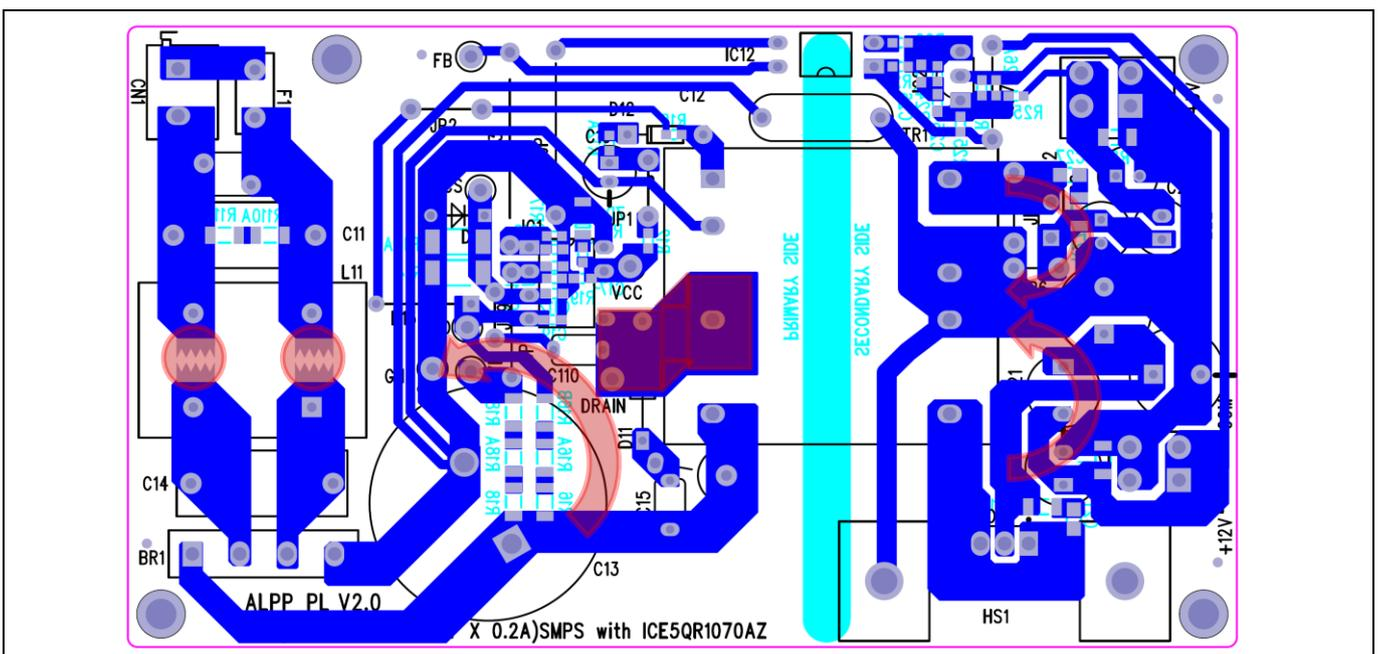

Figure 4 PCB layout tips
- The power loop needs to be as small as possible (see Figure 4). There are three power loops in the reference design; one from the primary side and two from the secondary side. For the primary side, it starts from the bulk capacitor (C13) positive to the bulk capacitor negative. The power loop components include C13, the main primary transformer winding (pin 6 and pin 4 of TR1), the drain pin and CS pin of the CoolSET™ IC11 and CS resistors R14 and R14A. For the secondary side, the 12 V output starts from the secondary transformer windings (pin 7 and 9 of TR1), output diode D21 and output capacitors C22 and C23, while the 5 V output starts from the secondary transformer windings (pins 10 and 12 of TR1), output diode D22 and output capacitor C28.